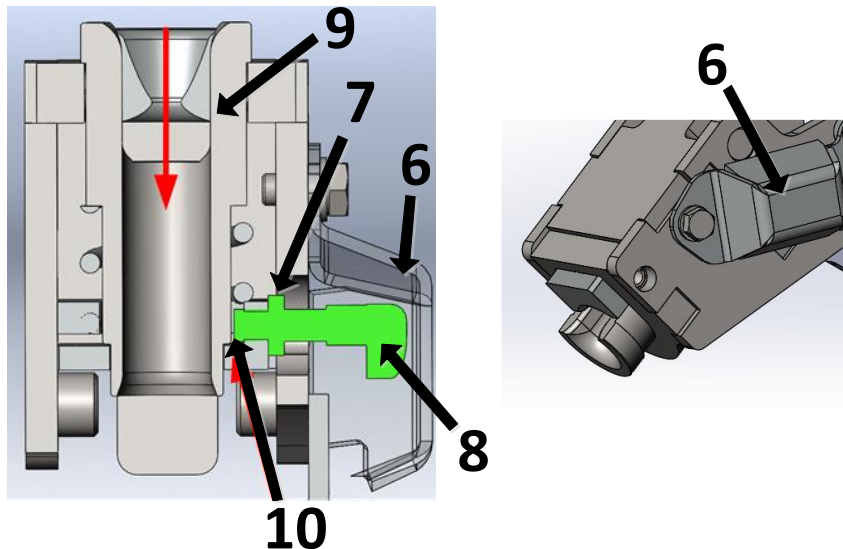

Figure 12c
Remove the protection of the switch (6, Figure 12c). Unscrew the safety nut (7) on the limit switch (8). Press on the sleeve (9) until it rests in its final position. Screw on the sensor (8) until it reaches the surface of the sleeve (9). Unscrew the sensor (8) by one turn, so that the distance between the sensor and the sleeve (9) is 1 mm.